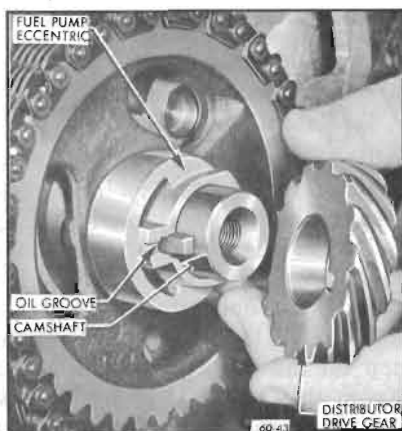

Figure 60-43—Fuel Pump and Distributor Drive Gear Installation
5. With oil groove facing the front, slide fuel pump eccentric on camshaft and Woodruff key. See Figure 60-43.
6. Install distributor drive gear. See Figure 60-43.